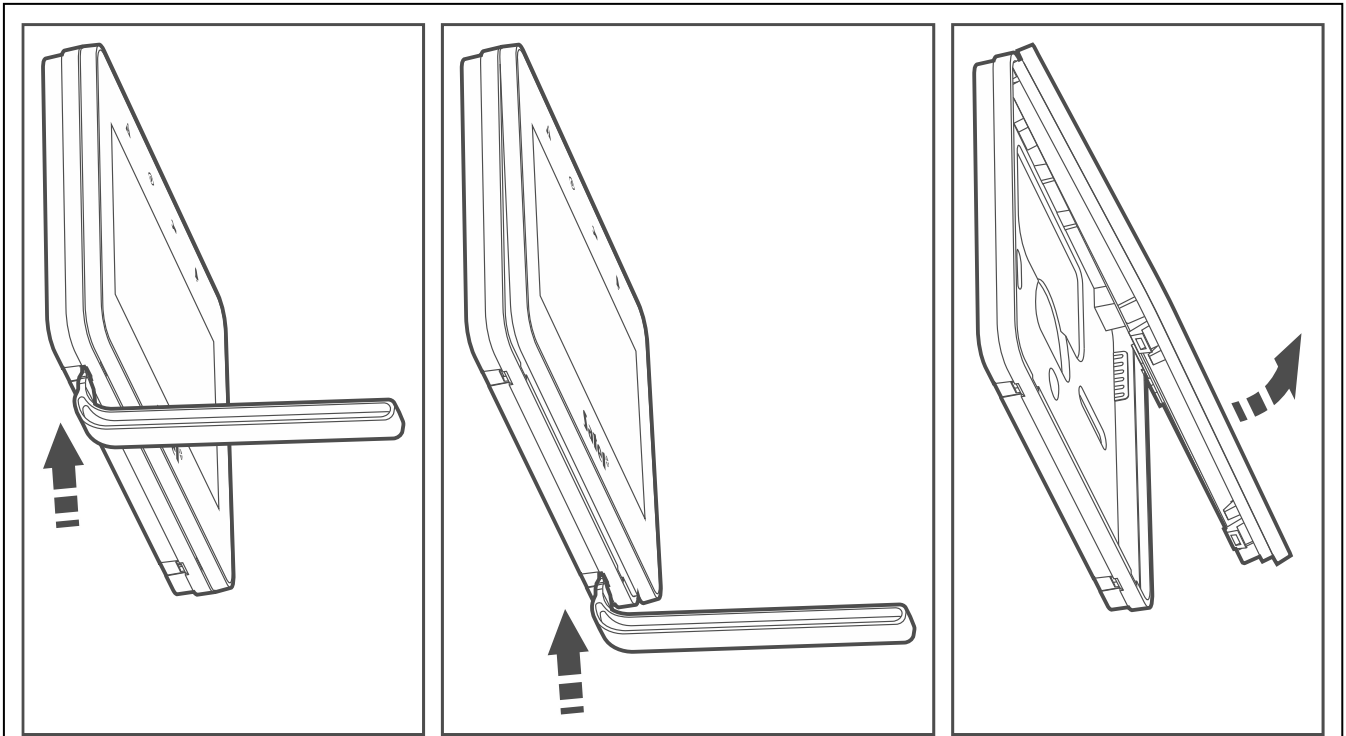

Fig. 1. Opening the enclosure.
1. Open the keypad enclosure (Fig. 1). The enclosure opening tool, shown in the illustration, is included in the keypad delivery set.